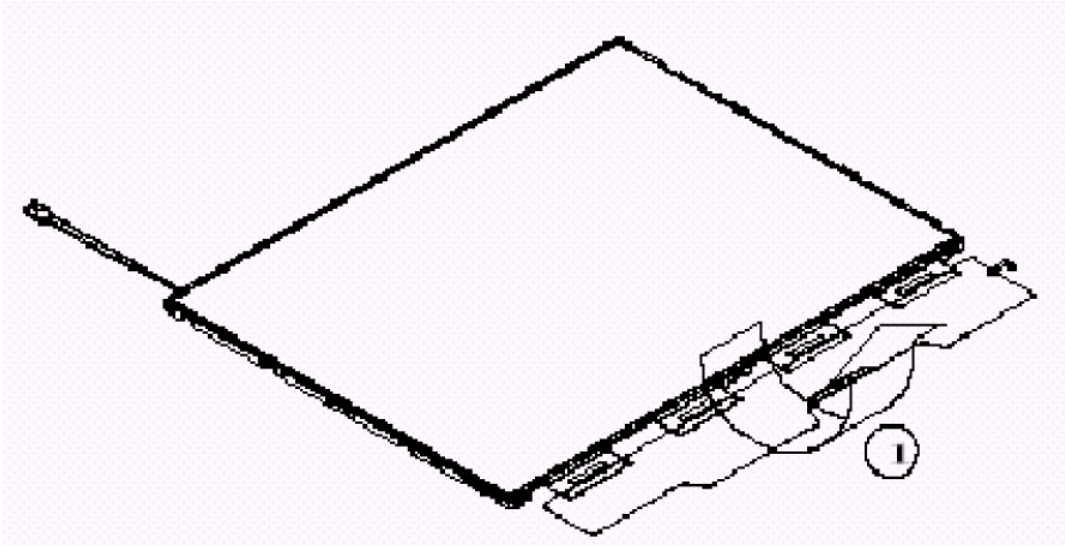

Figure 4-45 Replacing 14.1 Inch TMD fluorescent lamp (XGA) (4)
1. Spread out the PCB horizontally, as shown in Figure 4-45.